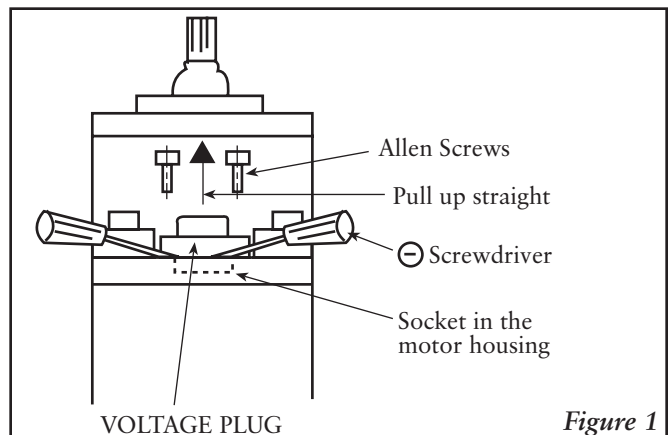

Figure 1
- B. Remove the two Allen screws and carefully pull the voltage plug up and out using two screwdrivers as shown in Figure 1.
Connection Diagram: See Figure 1.